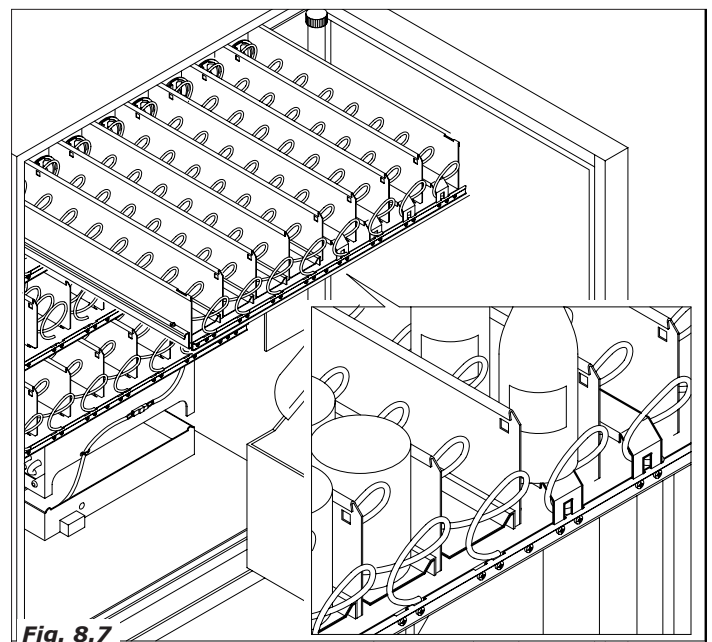

Fig. 8.7
- or supports (see fig.8.7) to help the products to slide.